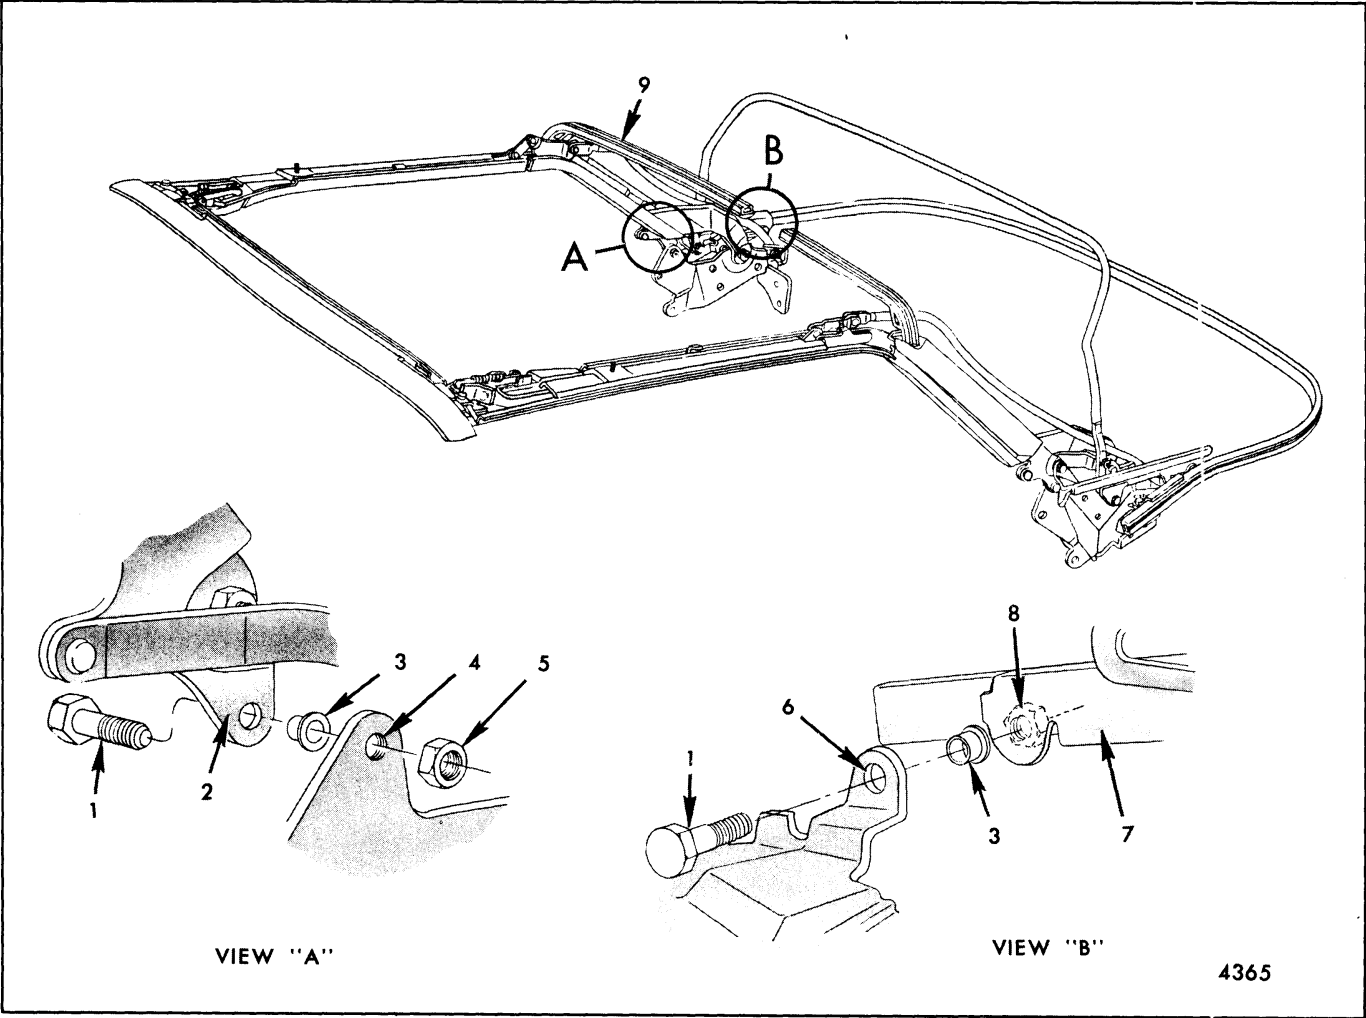

Fig. 8-57-Center Bow Assembly and Rear Trimstick Attachment
(View "B", Fig. 8-57) securing trimstick to main hinge on each side. Bolt is removable toward inside of body. Welded anchor nut remains on trimstick.
- C. With top lowered about half-way, remove front bolt and nut on each side (View "A", Fig. 8-57) securing center bow assembly to main hinge. Bolt enters through bushing and threads into main hinge. Bolt is then secured with lock nut. Bushing is retained in outer rail and contacts main hinge.
- B. Raise top several inches above windshield header. Install bushing in main hinge, align trimstick to main hinge attaching holes and install trimstick attaching bolts (View "B", Fig. 8-57). Use care to avoid dropping bolt. To avoid losing bolt, block openings at wheelhouse with several shop towels.
- C. Lower top half-way. With bushing properly positioned in each outer rail, install attaching bolts (View "A", Fig. 8-57) securing outer rail to main hinge. Each bolt threads into hinge and is secured with lock nut.